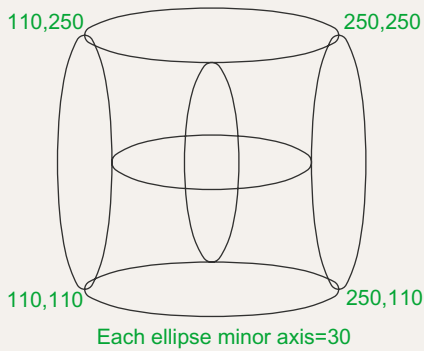

Fig. 3.48 Exercise 5
5. With the **Ellipse** tool, construct the drawing Fig. 3.48.